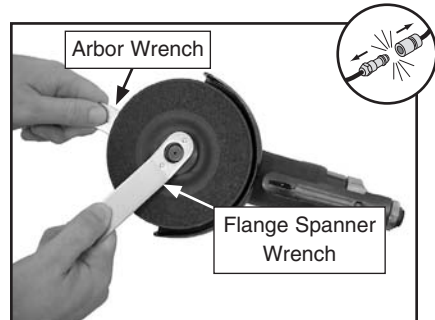

Figure 2. Loosening the outer arbor flange.
2. Position the arbor wrench on the arbor flats behind the inner arbor flange (see **Figure 2**).